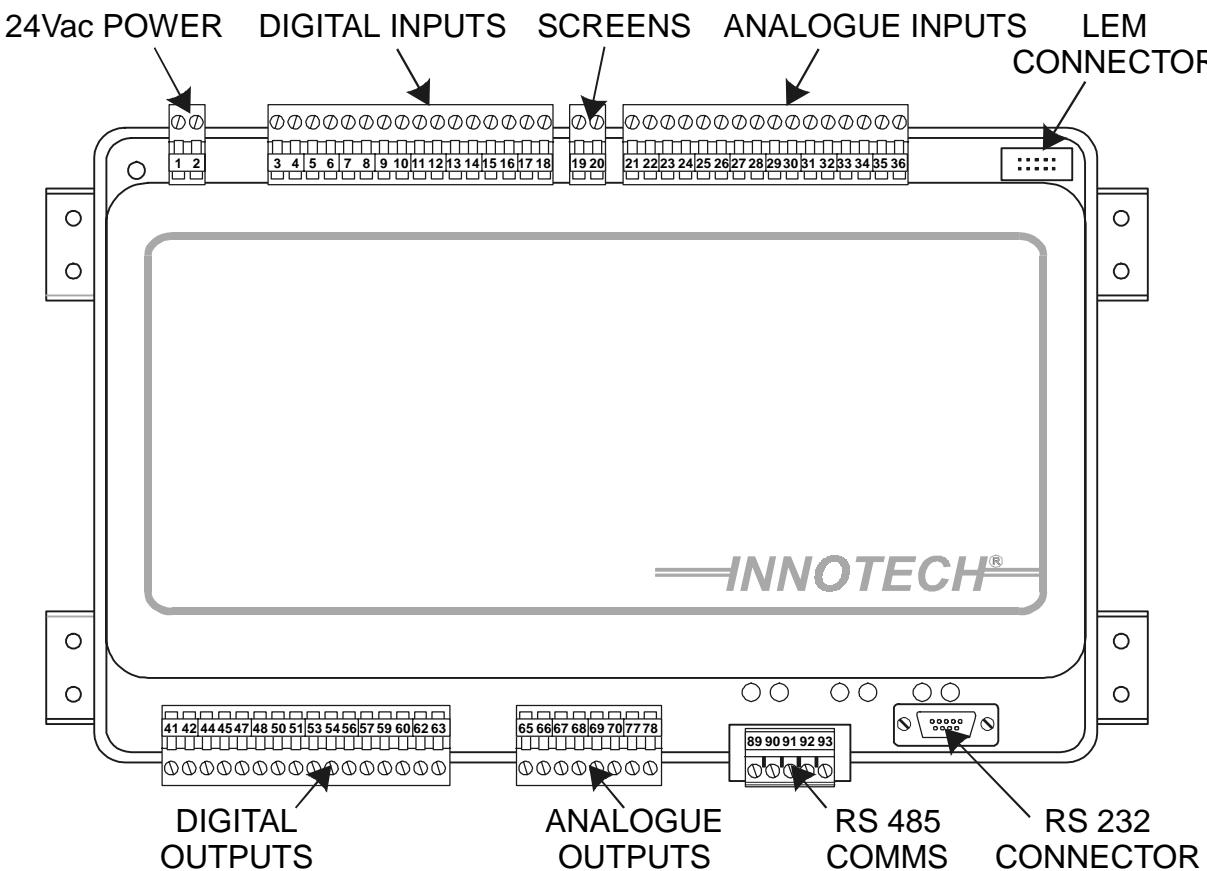

Figure 3-5. Genesis I Digital Controller Input/Output Terminals.
**3-3.3. GENESIS I DIGITAL CONTROLLER.** Figure 3-5 shows the input/output connection groups for the Genesis I Digital Controller. The controller uses Phoenix type plug-in terminal strips located around the controller's perimeter. Terminals are grouped by function as follows: